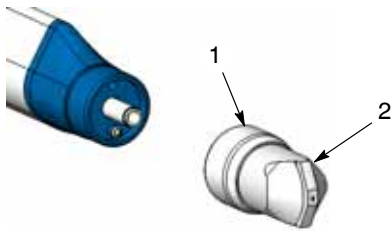

Figure 17 Removing Nozzle
1. See Figure 17. Remove the retaining nut (1) and nozzle (2).
2. See Figure 17. Remove the nozzle.
12. See Figure 17. Install the nozzle (2) over the fitting and tighten the retaining nut (1).